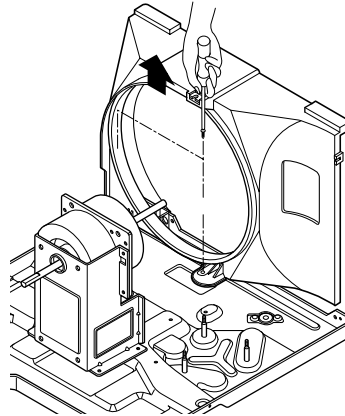

Figure 20
2. Remove the shroud. (See Figure 20)